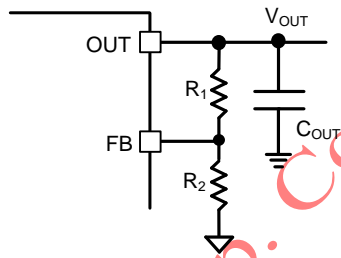

Fig.7 V_{OUT} Programming
The SYV939C provides a function for output current limit by sensing the voltage drop between the OUT pin and the ISEN pin (as shown in fig.7). Once the differential voltage on R_{SENSE} exceeds the voltage threshold, the internal current control loop will regulate the output current by decreasing duty cycle until UVP or OTP is triggered. Noticing that the effects of R_{PIN} and R_{WIRE} cannot be ignored, the actual limit current I_{LIMIT} can be calculated as given in Equation (2):